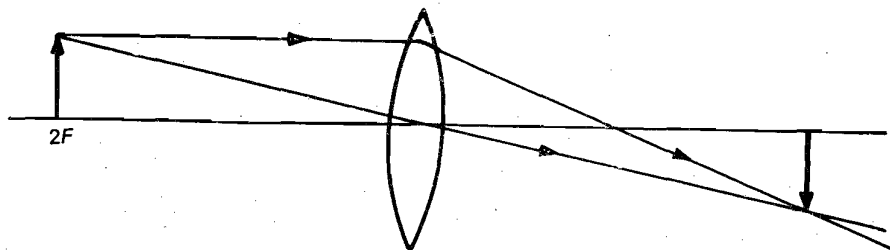

Fig.4.6: Ray diagram for a convex lens when object is placed at $2F$
- Mount another pin on the optical bench so that it is on the right hand side of the lens. Place it at the estimated position of the image. Adjust it at the position of no parallax. The ray diagram for this case is shown in Fig.4.6. Make your own Observation Table by drawing columns similar to Observation Table 4.1. Record the positions of the object pin, the lens and the image pin.